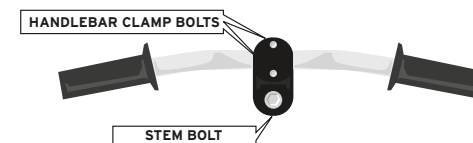

Figure 2. Handlebar Adjustment
2. Loosen the stem bolt by turning it counterclockwise using the included Z wrench. Twist the handlebars so they are perpendicular to the front wheel. Retighten by turning stem bolt clockwise. (See fig. 2.)